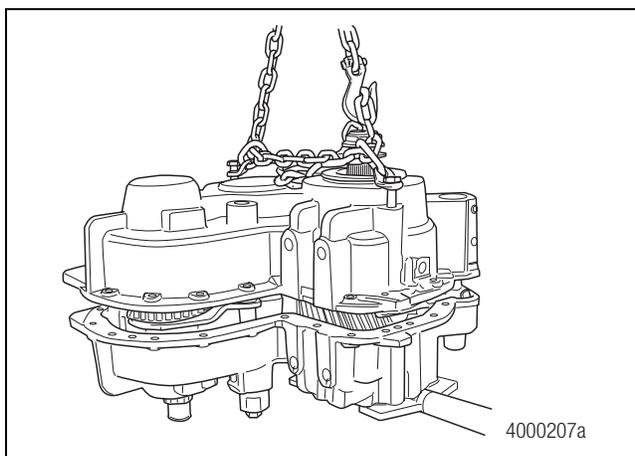

Figure 6.5
- Use a suitable lifting device to install the rear cover and output shaft as an assembly over the front case. Figure 6.5. Guide the cover over the shift fork and push rod as the cover is being set into place over the case.